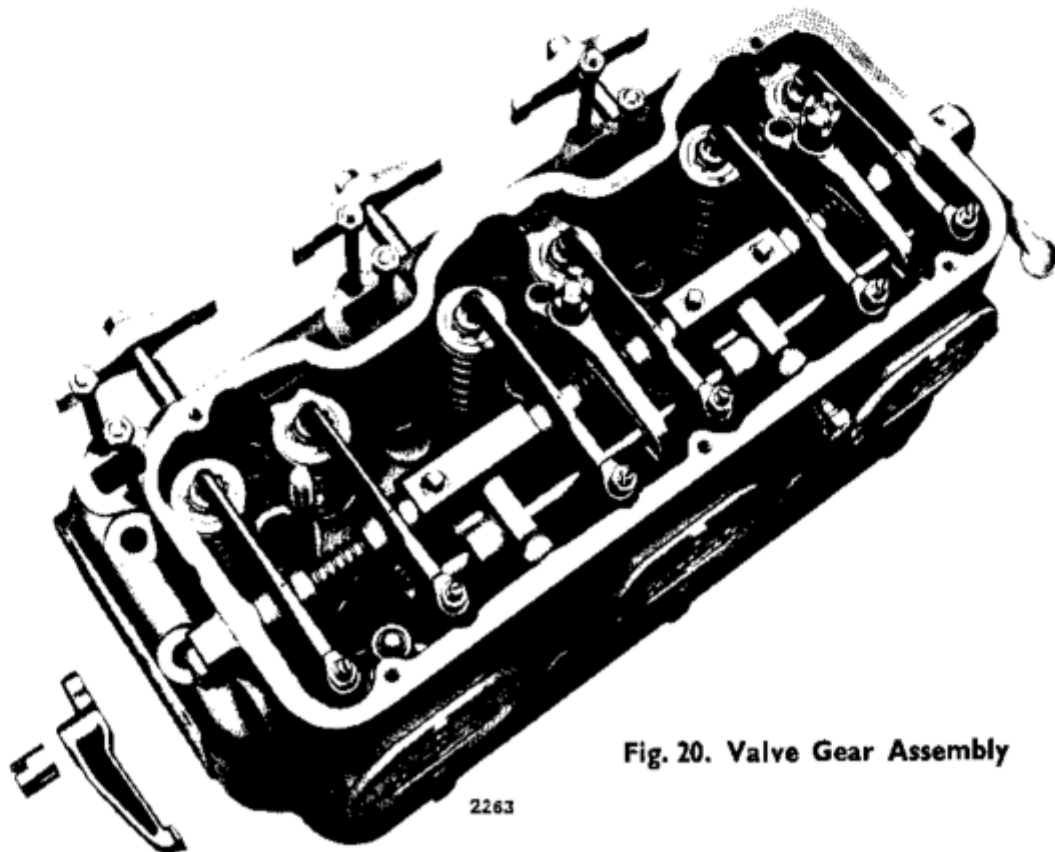

Fig. 20. Valve Gear Assembly
57. DECOMPRESSION LIFT OF INLET VALVE. The decompression levers at the rear of each cylinder head operate small shafts in which are fitted adjustable screws with locknuts located under each inlet valve lever. See Fig. 20.